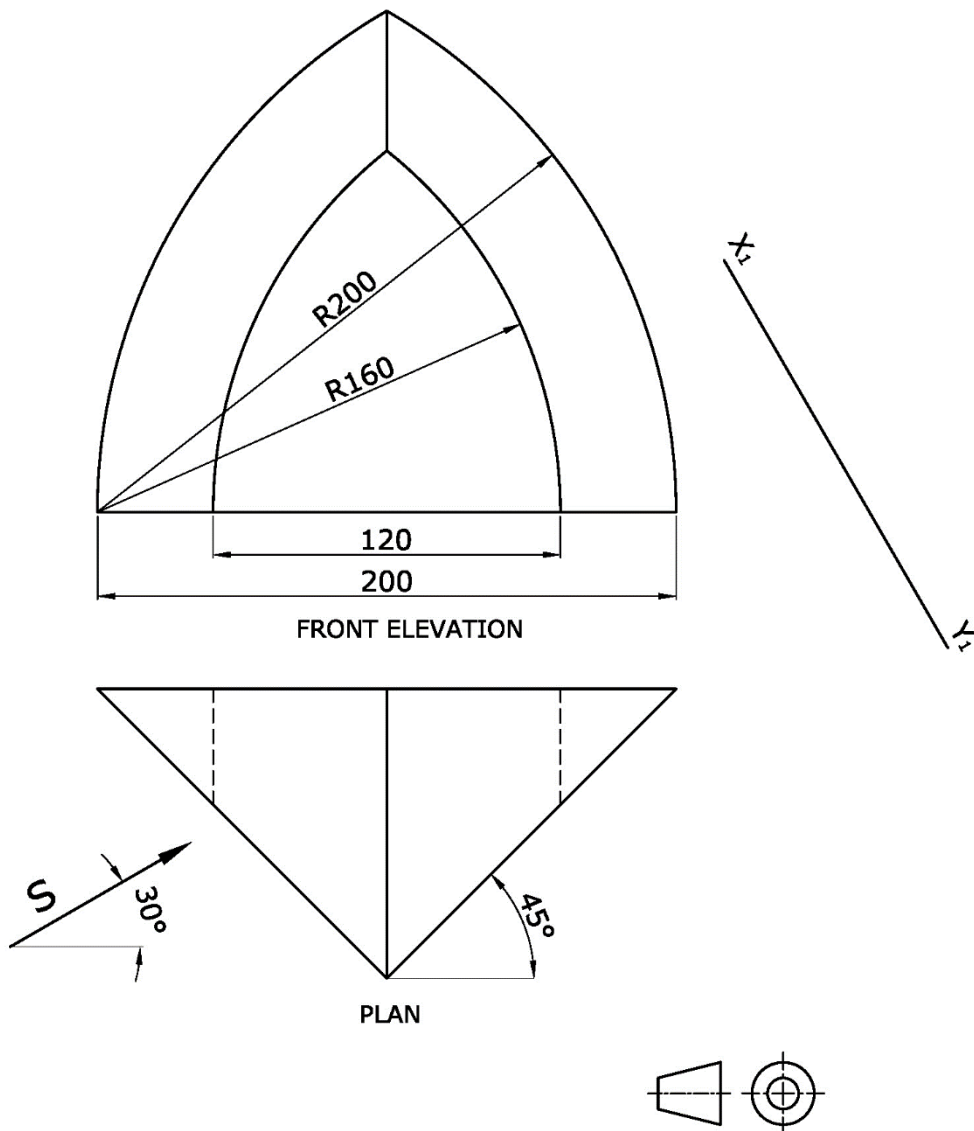

Figure 5b
- a) Reproduce, full size, the front elevation and plan of the porch shown in Figure 5b. (3)
- b) Project an auxiliary elevation on to the X1-Y1 line, showing the view when looking in the direction of the arrow marked S. (10)